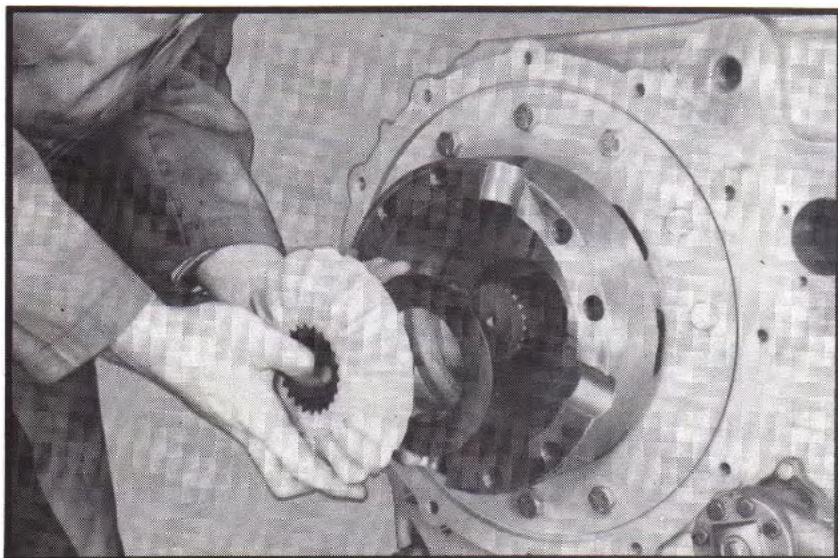

Fig. 126
- 2.17 Slide thrust washer and differential side gear onto spline of inner shaft and into front half of differential case. (See fig. 126.)